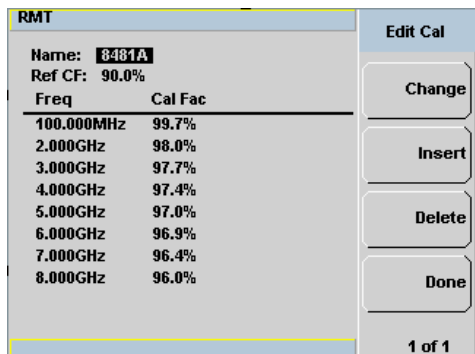

Figure 6-12 “Edit Cal” display
- 2 Choose the table you want to edit using the  and  keys. Press **Edit Table** to display the **Edit Cal** screen as shown in Figure 6-12.